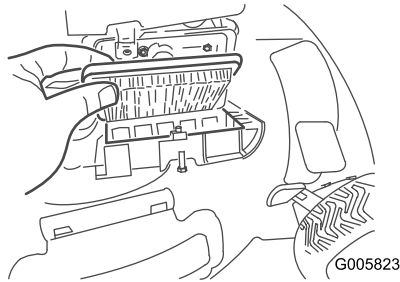

Figure 41
2. Replace the air filter (Figure 41).